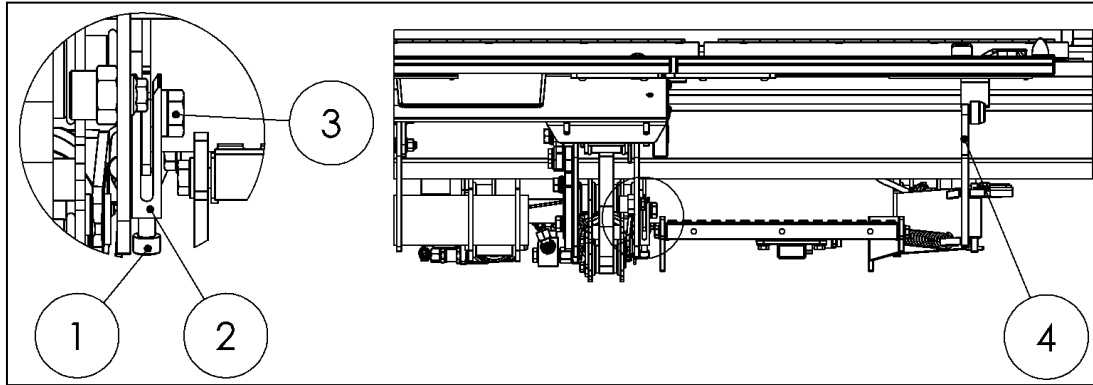

Figure 78
If necessary, adjust the height of the fold-over section on the right side of the platform using the right-hand adjustment fork (2) (adjustment screw accessible from below) (see Fig. 78).